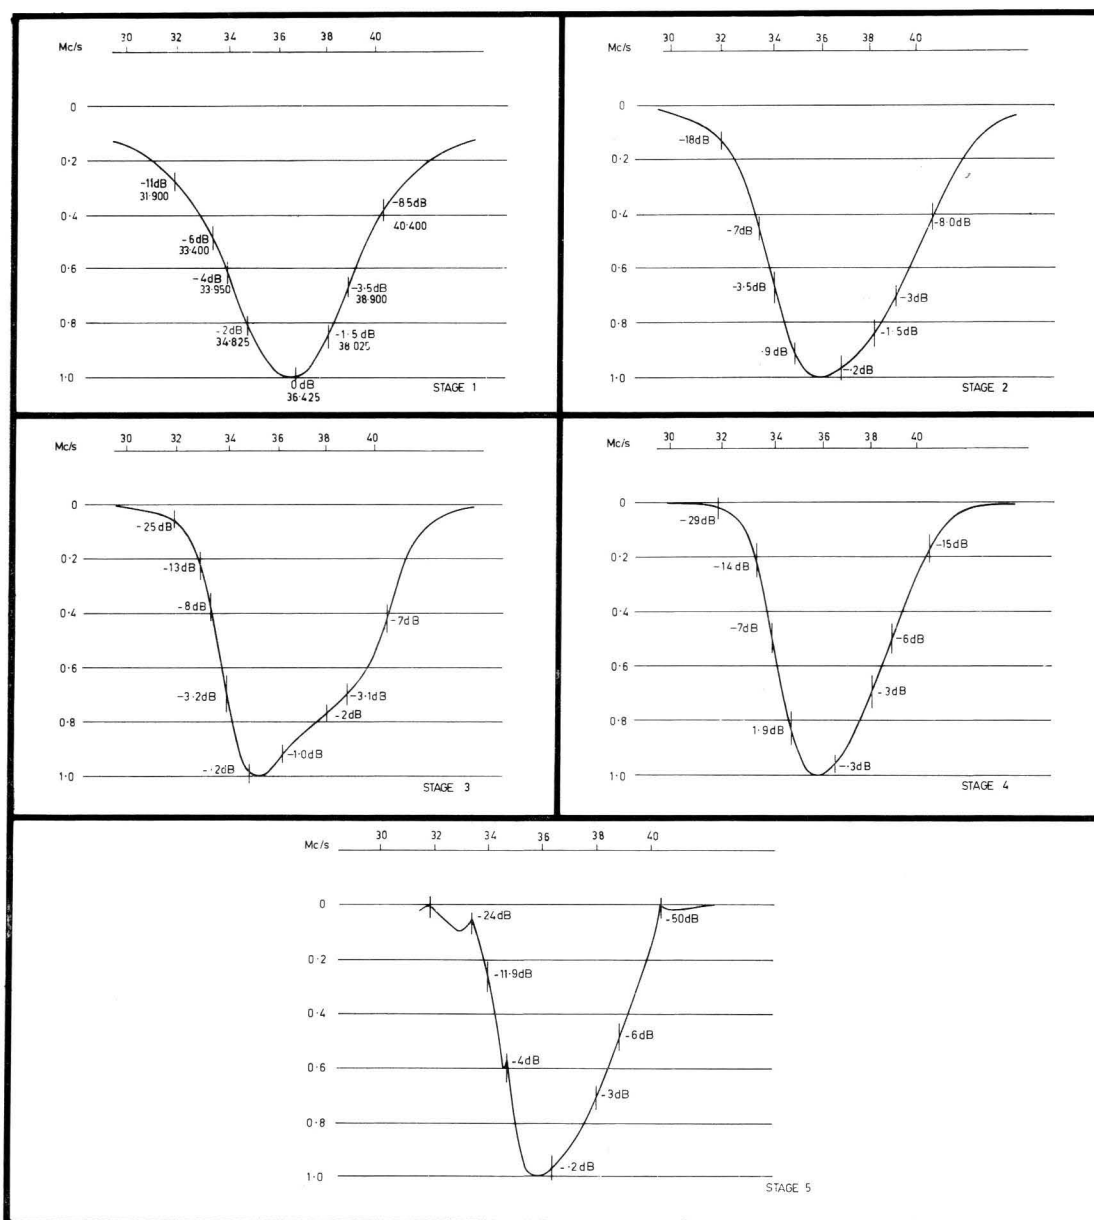

Fig. 3 — I.F. ALIGNMENT CURVES
- (b) Adjust the cores in L32 and IFT3 to obtain the response of Fig. 3, Stage 1.
- (b) Adjust the cores of L27 and IFT2 to obtain the response of Fig. 3, Stage 2.
- (b) Adjust the cores of L23 and IFT1 to obtain the response of Fig. 3, Stage 3.
- (b) Adjust the cores of L11 (IF output coil, adjacent to V2) and L21, to obtain the response of Fig. 3, Stage 4.
(a) Adjust L22 to 30.40 Mc/s. Fig. 3, Stage 5.
(c) Check the overall response and make any adjustments to obtain an overall response as shown in Fig. 3, Stage 5.